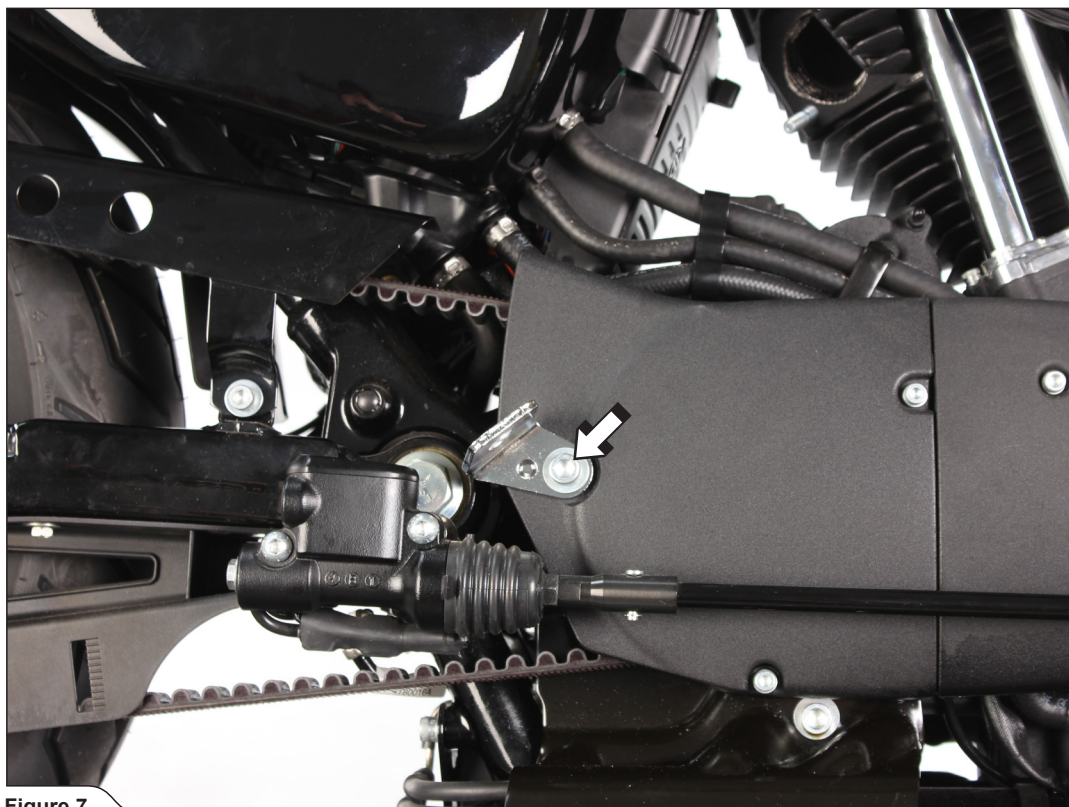

Figure 7
8. Unscrew the marked bracket bolt and remove the bracket off the motorcycle (Figure 7).